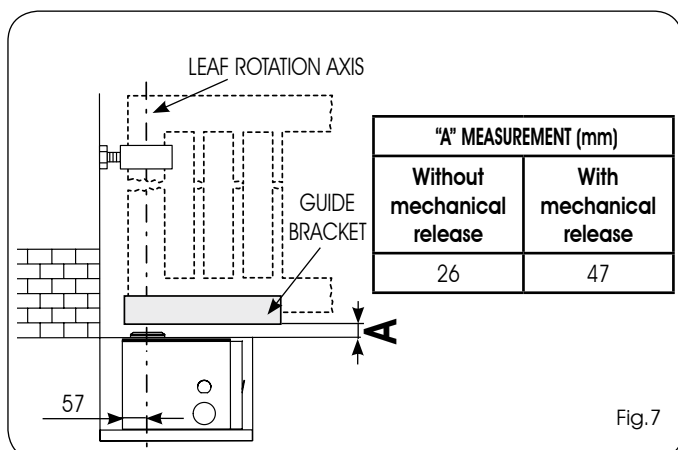

Fig.7
- 5) Distance "A" between lower edge of gate and ground as shown in Fig. 7.
⚠ TO ENSURE CORRECT INSTALLATION, THE LEAF ROTATION AXIS MUST BE PERFECTLY ALIGNED WITH THE OPERATOR (Fig. 7)
2) Position the bearing case level, respecting the indications in figure 7.